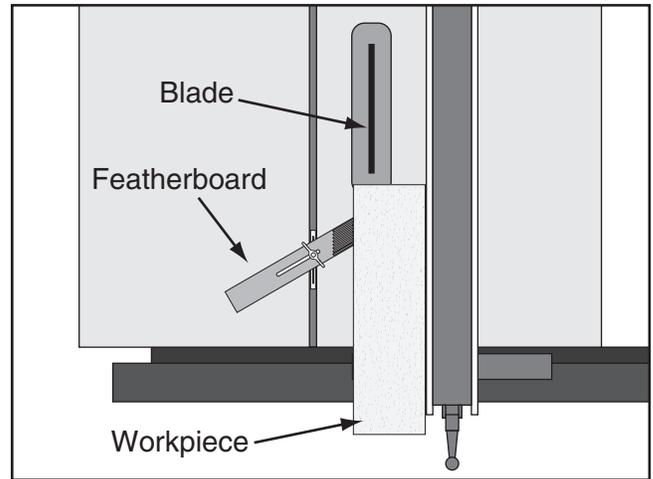

Figure 78. Featherboard installed in miter slot and supporting workpiece for ripping cut.
3. Slide the featherboard miter bar into the miter slot, making sure the fingers slant toward the blade, as shown in **Figure 78**.